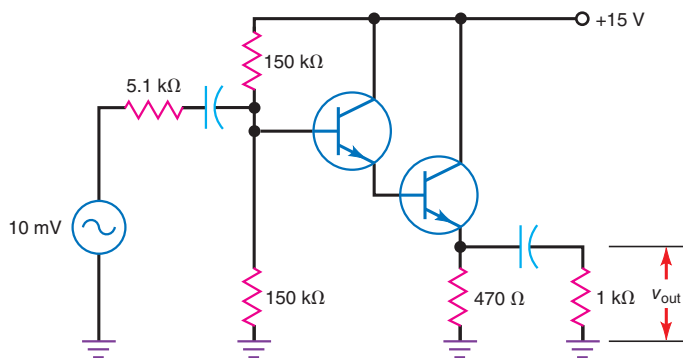

Figure 33-57
- 33.22 If the Darlington pair of Fig. 33-57 has an overall current gain of 5000, what is the input impedance of the Q_1 base? What is the output voltage?